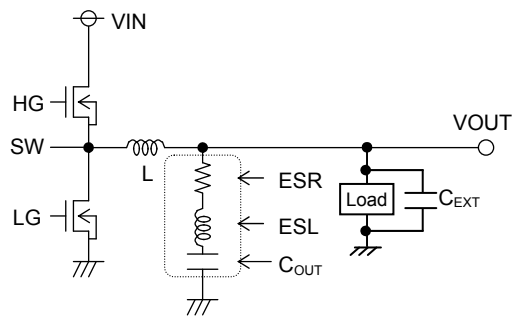

Figure 23. Output Capacitor
Also, give consideration to the conditions in formula (5) below for output capacitance, bearing in mind that output rise time must be established within the fixed soft start time. As output capacitance, bypass capacitor will be also connected to output load side (C_{EXT} , Figure 23). Please set the over current detection value with regards to these capacitance.